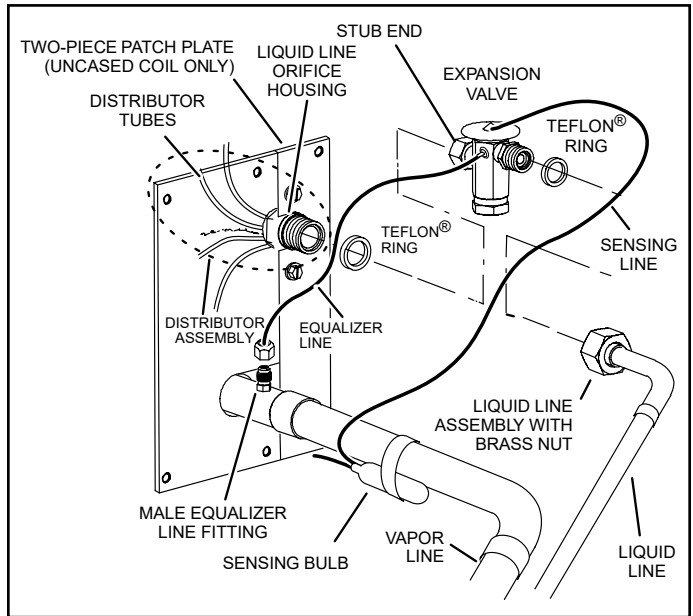

Figure 4. Remove Existing Expansion Valve (uncased coil shown)
- Remove and discard check expansion valve and the two Teflon® rings (see Figure 4).